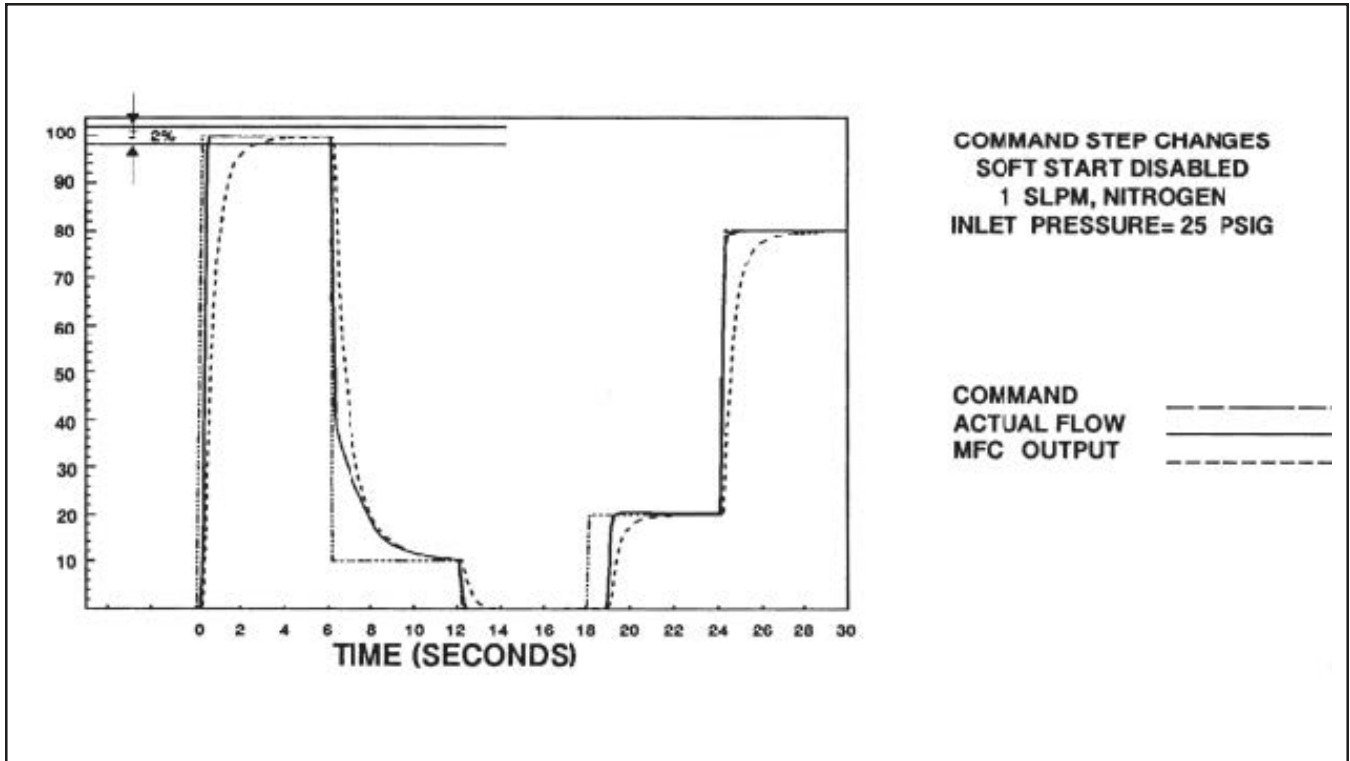

Figure 1-1 Command Steps, Soft Start Disabled
- **Fast Response Control** permits rapid gas settling times with little or no over/undershoot. (Refer to Figure 1-1.)